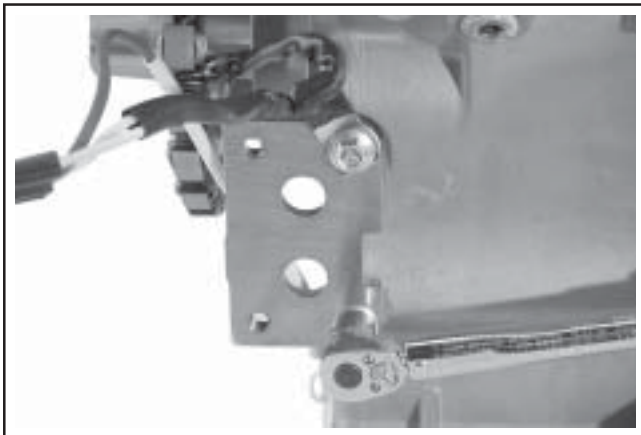

Figure 11-64. Installing Starter Adapter.
1. Install the starter adapter to the crankcase, so the cutout is offset down and facing away from the flywheel side. Install the two mounting screws, and position the clamp for the stator leads on the upper screw. See Figure 11-64. Torque the screws to **15.3 N·m (135 in. lb.)**.